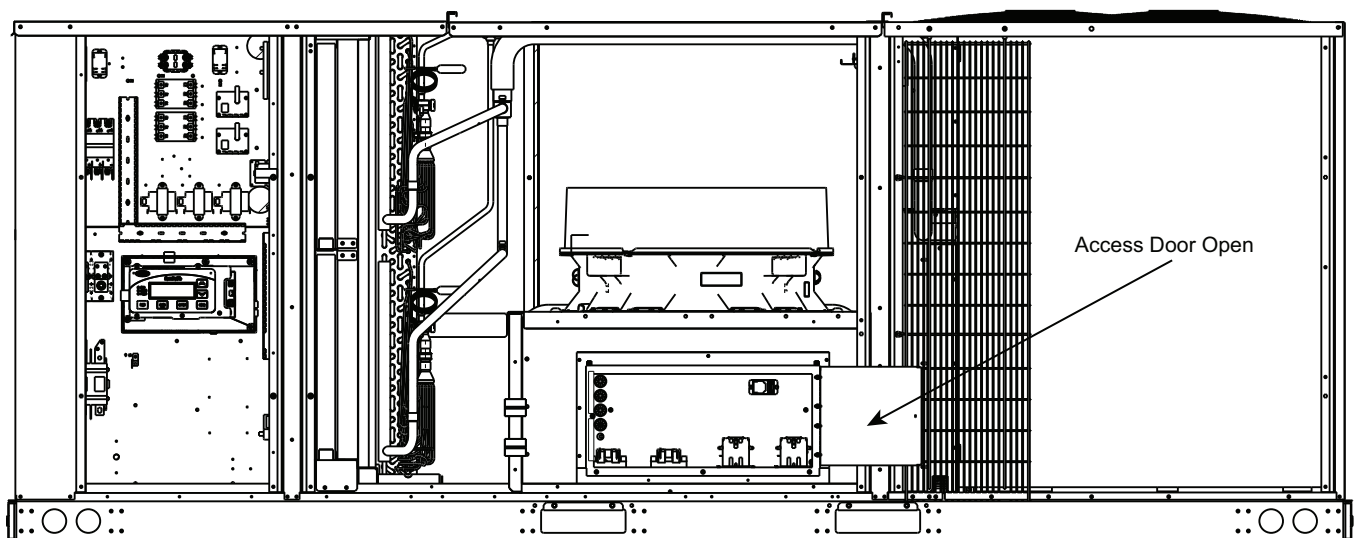

Fig. 49 — Electric Heater Accessory In Place (Shown with Access Door Opened)
5. Slide heaters until completely installed such that heater controls are completely in the unit. Using screws saved from Step 3, secure heater assembly. (See Fig. 49.)